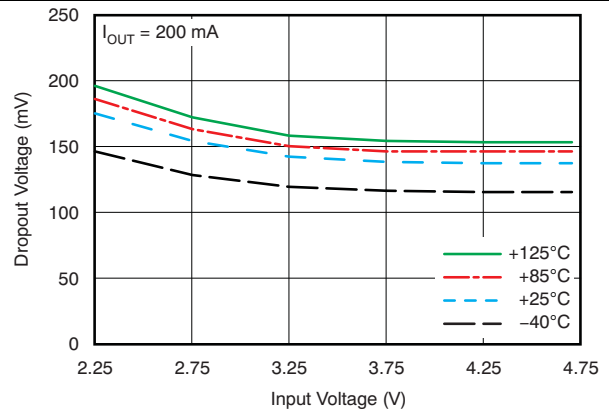

Figure 4. Dropout Voltage vs Input Voltage
• Added footnote (1)	1
- Changed Figure 4 title 7